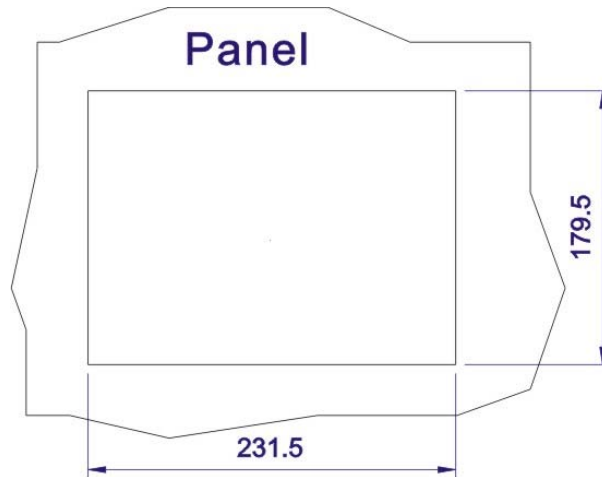

Figure 4-16: ACT-08A-ATOM Panel Opening (mm)
- Step 2:** Cut out a section from the panel that corresponds to the rear panel dimensions of the ACT-08A-ATOM. Take care that the panel section that is cut out is smaller than the overall size of the frame that surrounds the flat panel PC but just large enough for the rear panel of the flat panel PC to fit through (see **Figure 4-16**).